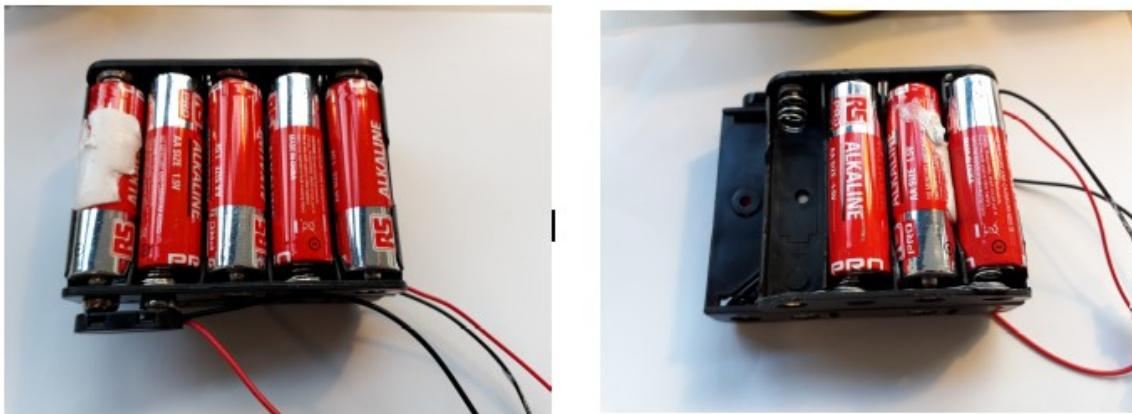

Figure 11: Filling the battery holder with batteries. [Note one battery has been left out. This is because we don't want the buggy to start working yet!]
Step 11: You should have a big pack of AA batteries in your kit, find 8 of them, and fill up the x5 battery holder with them, and x3 slots in the x4 battery holder. As shown in figure 11.